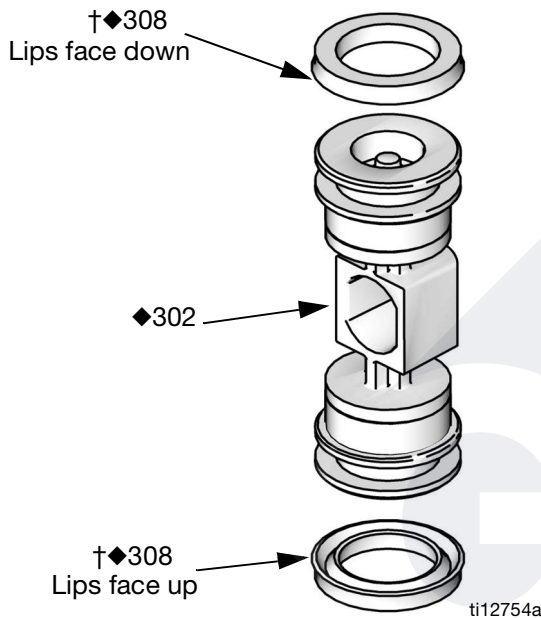

FIG. 18. Pneumatic Valve U-cup Installation
2. See FIG. 18. Lubricate the u-cups (308†♦) and install on the piston (302♦) with lips facing toward the center of the piston.